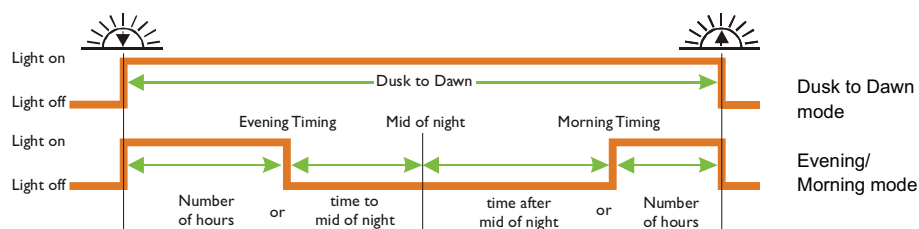

Figure 10: Nightlight function modes
- If Evening/ Morning is selected, Section 6.1.4 allows choosing the Evening timing behaviour and Section 6.1.5 allows choosing the Morning timing behaviour. See also figure 10.